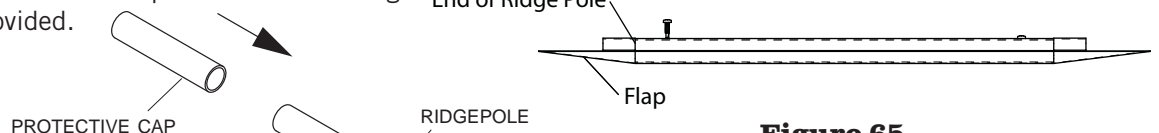

Figure 65
- 4) **See Figure 65.** Slide the ridge pole into the tarp pocket and secure with #14 x 1 PPH self drilling screw.
- 6) **See Figure 65.** Fold flaps around end of ridge pole when provided.